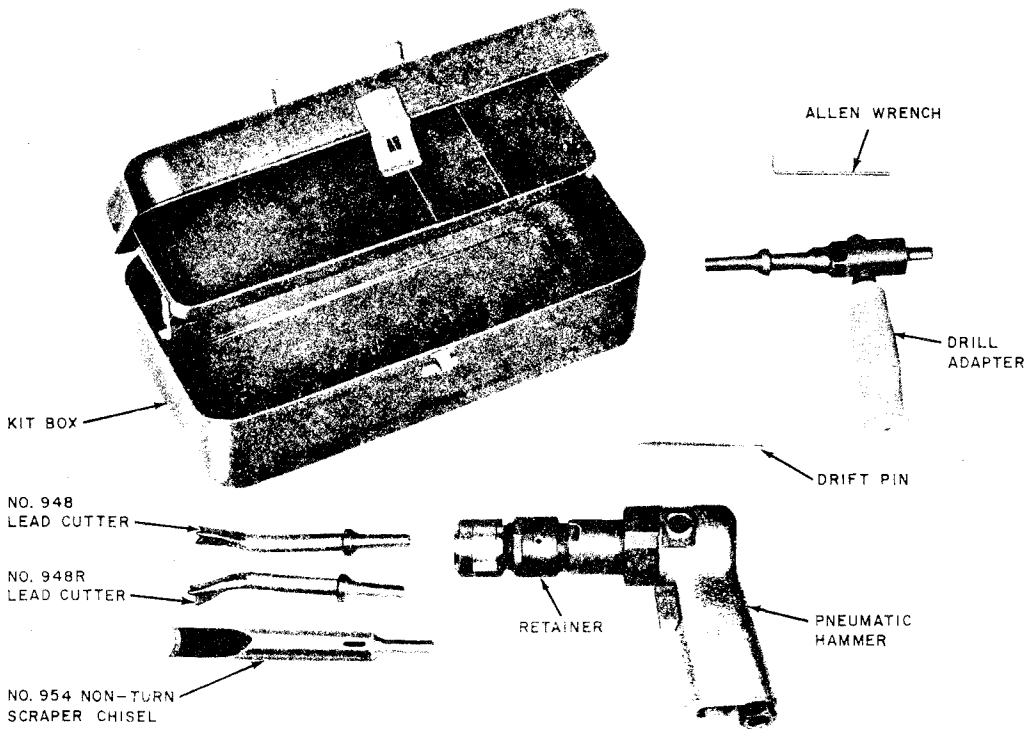

Fig. 1—No. 970 Lead Cutting and Drilling Kit
2.01 The No. 970 Lead Cutting and Drilling Kit (Fig. 1) consists of a Black and Decker Pneumatic hammer, No. 948 Lead Cutter, No. 948R Lead Cutter, No. 954 Scraper Chisel, a safety tool retainer, a drill adapter, and a metal carrying case. A small Allen wrench for use with the retainer and a drift pin are also included with the kit.